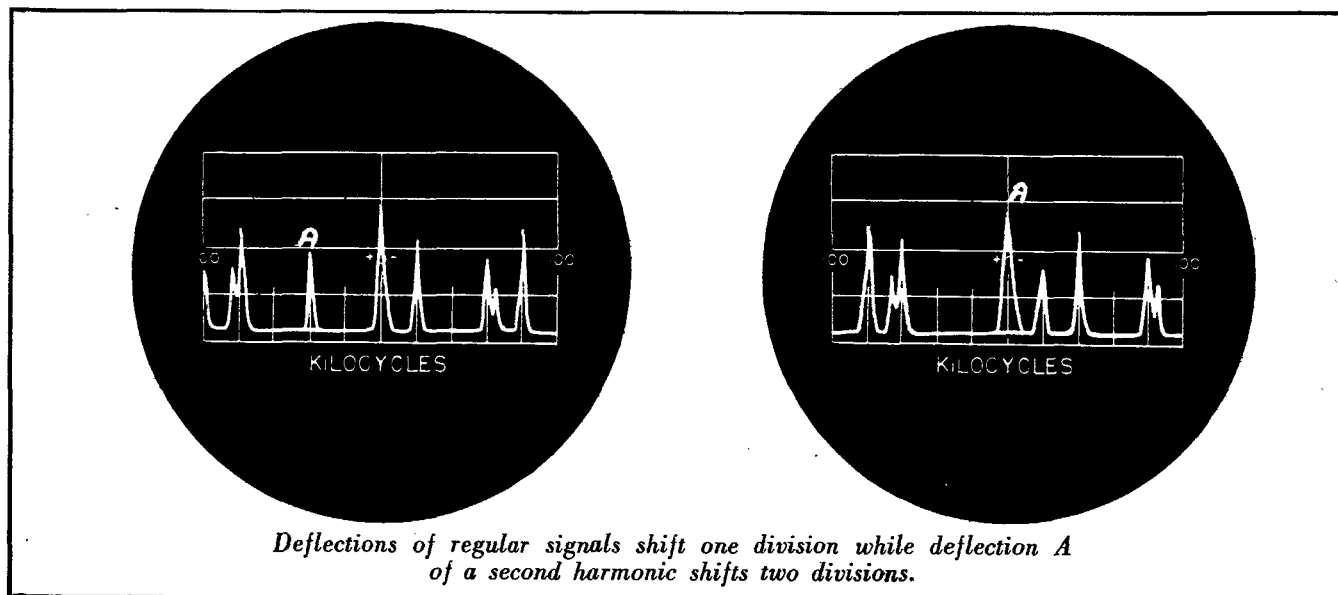

Figure 13. Behavior of Deflections of Harmonics Compared With Deflections of Regular Signals as Receiver is Tuned
(13) *Harmonics* produced in the receiver by the beat of very strong signals with harmonics of the oscillator, will be distinguishable from other signals by the fact that they move on the screen more rapidly (with tuning) than the normal signals. (Twice as fast for second harmonic spurious signals). Generally, a reduction in the gain of the receiver will eliminate this type of spurious signal. Refer to Figure 13.